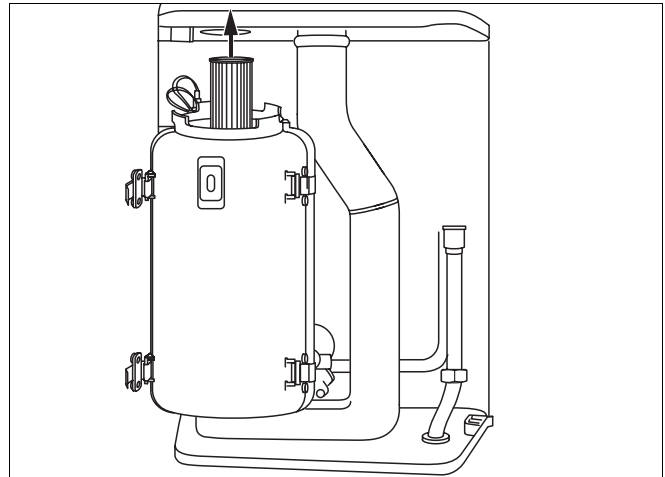

Fig. 30 Remove burner
- Remove heat exchanger by pulling upwards through the opening (fig. 30).